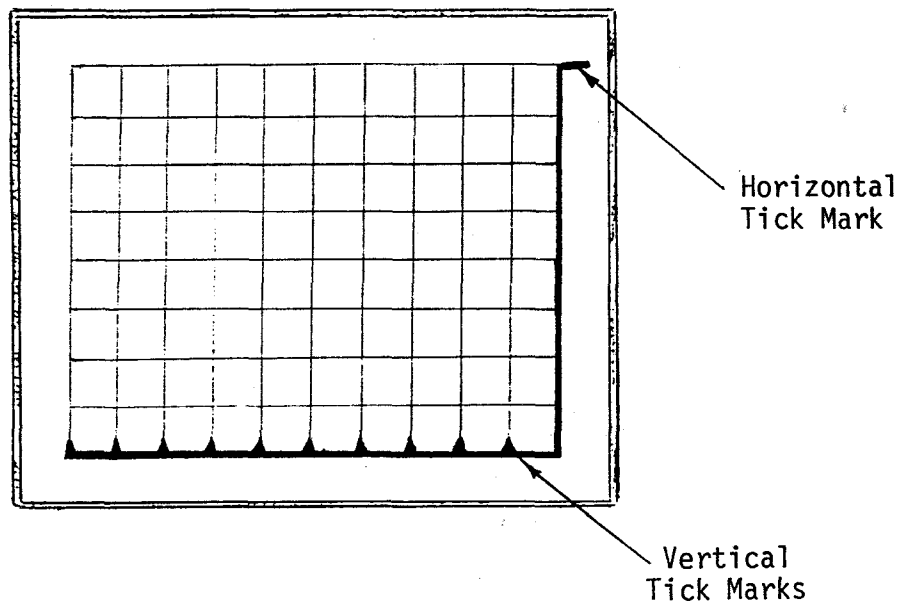

Figure 8
2. Push the CALIBRATION BUTTON, ④, until the CAL LED beside it lights. This indicates that the IE-17A is now in a calibration mode.
4. Adjust the oscilloscope sweep rate (Time/Div) to about .2 msec/div until 10 "tick" marks appear, horizontally lined up across the X-axis of the screen. The vernier sweep adjustment, and the sweep position control are used to fine tune the horizontal spacing of these "tick marks" until they fall exactly on each of the first 10 vertical screen markings (usually 1cm apart), beginning with the first line on the left. See Figure 8.
5. Adjust the coarse and fine input attenuation adjustments on the oscilloscope (volts/div. or volts/cm) to first find and then adjust the heavy horizontal "tick mark." Move it to the right of the far right line on the screen until it rests at the upper right hand corner of the screen grid. A calibrated oscilloscope screen is demonstrated in Figure 8.